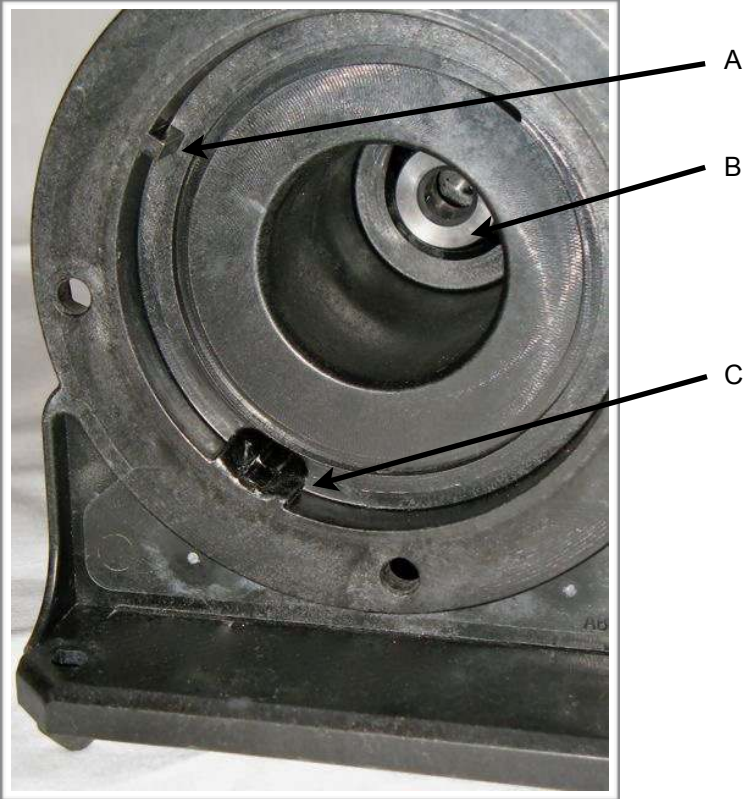

Fig. 6: Rear bearing seat, guide lug, and flushing opening
When assembling the pump (fig. 6 and 7), please make sure that the guide lug (A) fits into the corresponding opening on the magnetic impeller plate and that the flushing opening (C) is in the right place. Make sure that the bearing (B) is in the correct position inside the motor. If necessary, push the bearing into position with a blunt object (e.g. the handle of a screwdriver). Make sure that the O-ring for the vibration isolation and sealing (fig. 10) is in the right position before reassembling the pump.